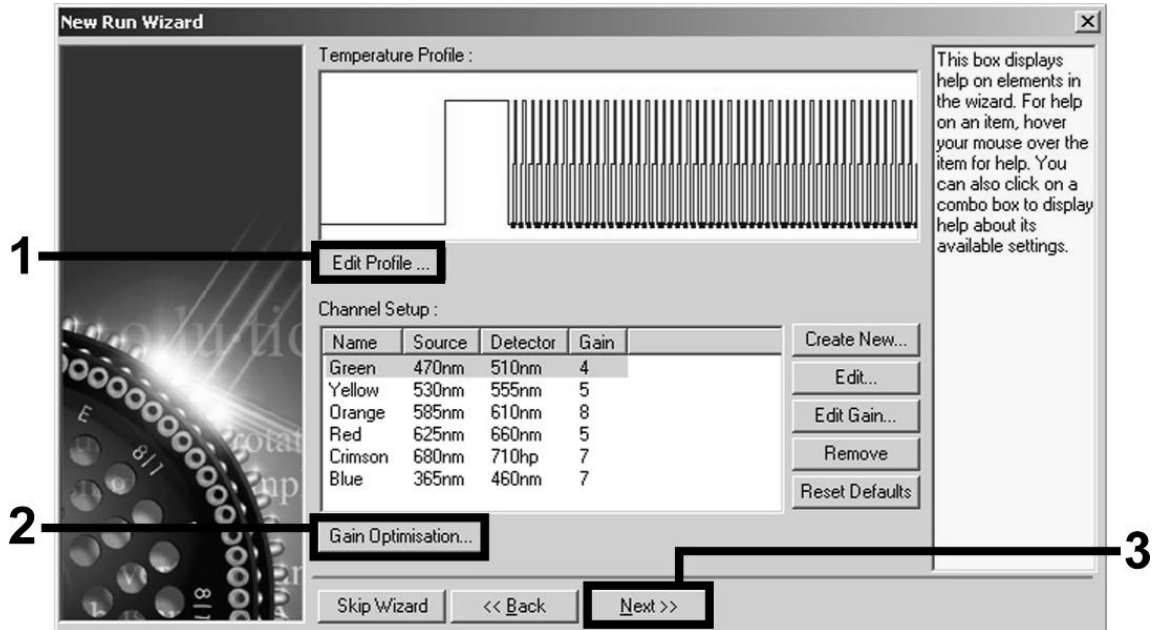

Figure 7. Editing the profile.
- Click the "Edit Profile" button in the next "New Run Wizard" dialog box (Figure 7), and program the temperature profile as shown in Figures 7–10).
- The detection range of the fluorescence channels has to be determined according to the fluorescence intensities in the PCR tubes. Click "Gain Optimisation" in the "New Run Wizard" dialog box (see Figure 7) to open the "Auto-Gain Optimisation Setup" dialog box. Set the calibration temperature to 50 to match the annealing temperature of the amplification program (Figure 11).